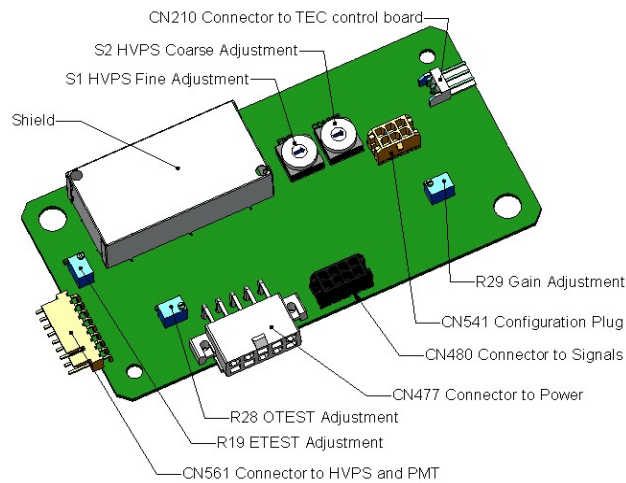

Figure 5-27. Pre-Amplifier Board Layout
4. Locate the following components on the preamplifier board (Figure 5-27):